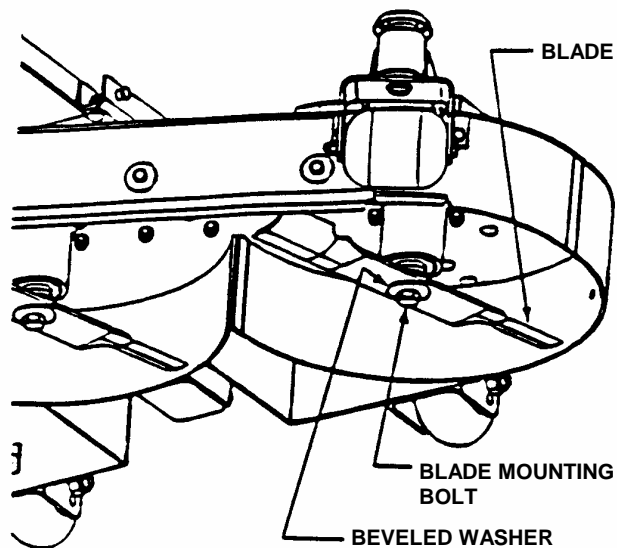

FIGURE 5.5
1. Remove blade. See Figure 5.5.
5. Reinstall blade. See Figure 5.5. Torque blade mounting bolts to recommended range of 70 to 80 ft. lbs.